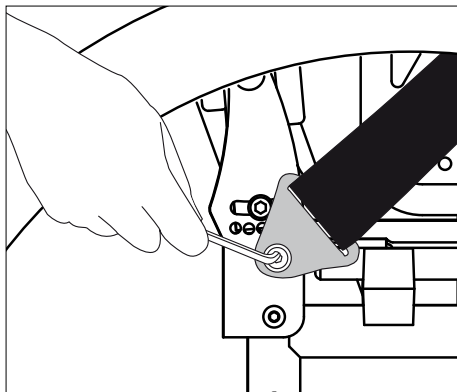

Figure 47
- Fit the hip belt as shown in figure 47. Use the screw you removed.